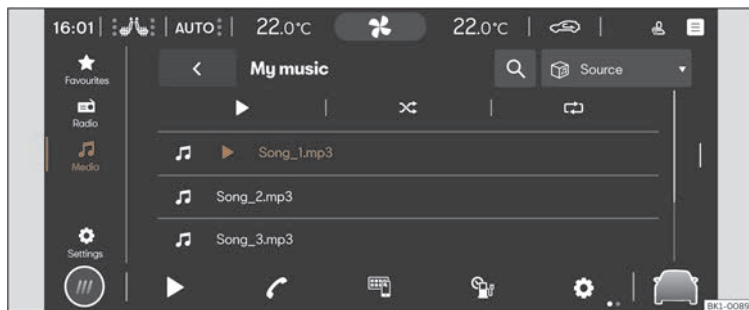

Fig. 130 Schematic representation: Multimedia view
- Press **HOME** > ► > 🎵 >>> **Fig. 130**.